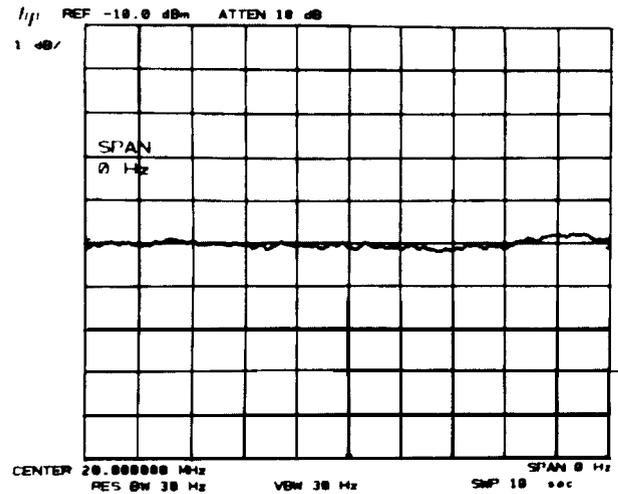

Figure 2-29. Slope Detected Residual FM
10. Change to 0 Hz. Readjust FREQ ZERO, if necessary, to position the trace at the center graticule line. The amplitude variations of the trace (see Figure 2-29) represent the analyzer residual FM.